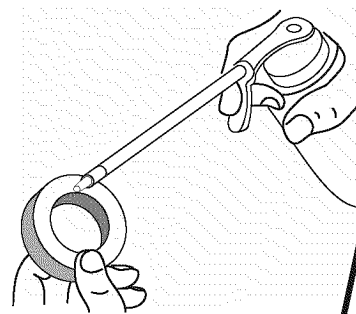

Fig. 30
4. Apply enough clean SAE 30 oil to lightly coat the filter (Fig. 30).